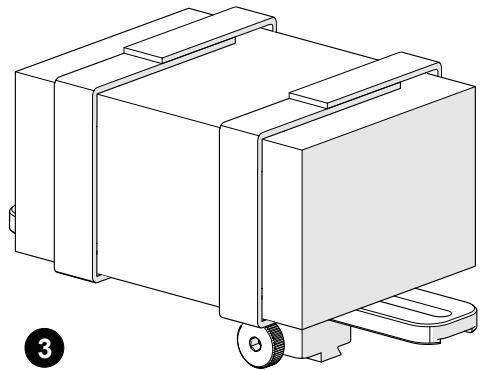

Fig. 75 - Preamp is ready to be mounted to a frame bar
3. Secure the preamp to the bracket attaching each side of the velcro (Fig. 75).